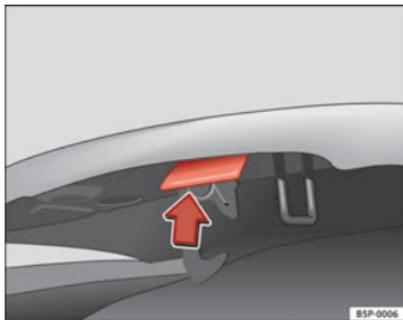

Fig. 169 Release catch under the bonnet
- Press the release catch under the bonnet upwards ⇒ Fig. 169. This will release the arrester hook under the bonnet.